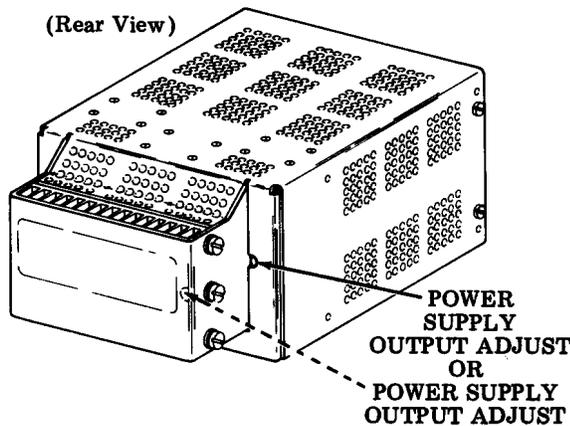

Fig. 64—Controller Power Supply
- (c) Make certain the power supply terminal connections are secure; replace controller ac power cord; and turn on ac power. Using a small screwdriver, adjust output voltage adjusting screw on power supply (Fig. 64) until meter reading is +5.50 V dc.